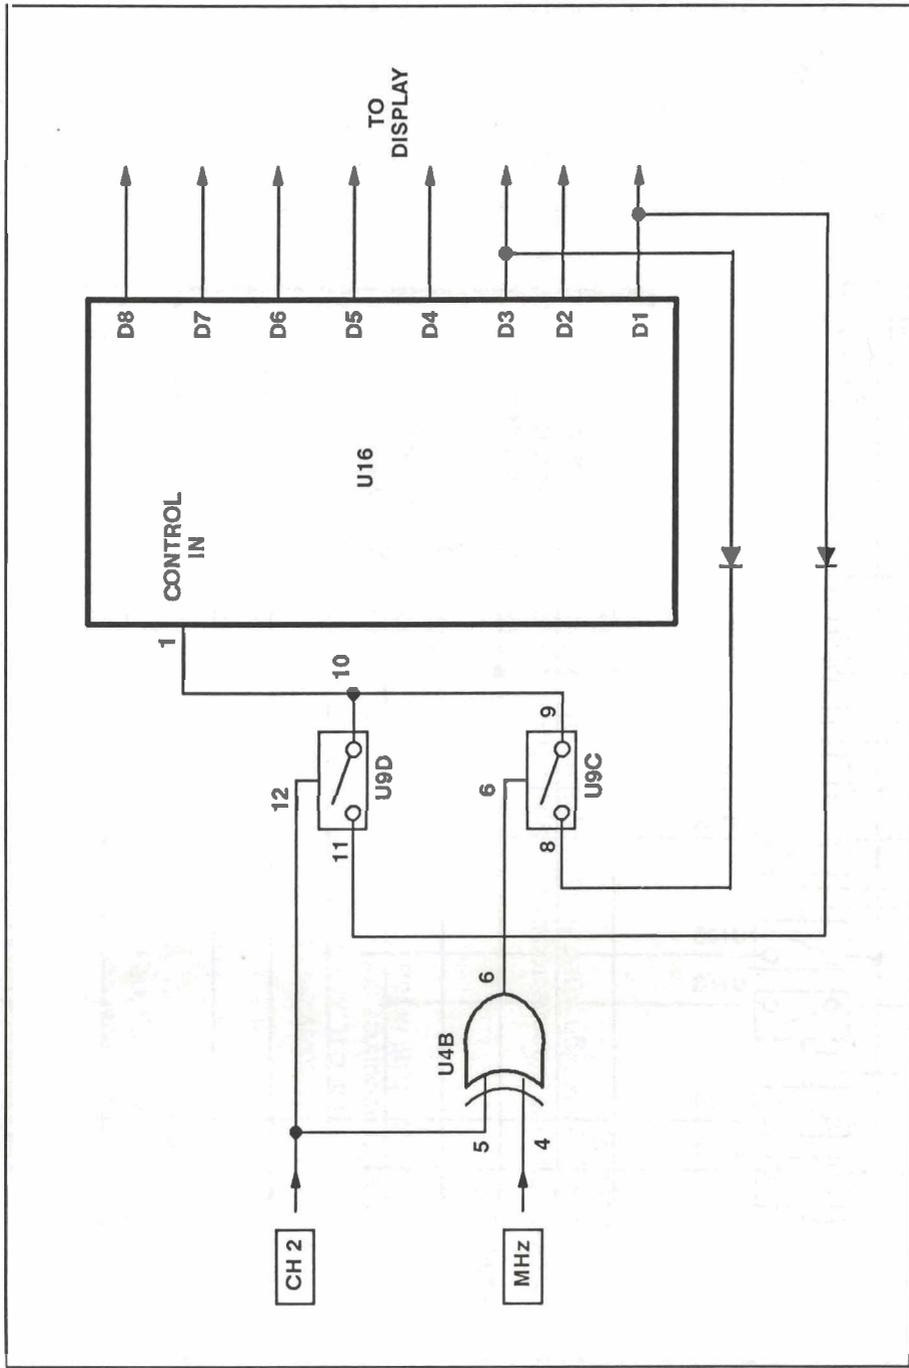

Figure 3-5. Additional strobe feedback.
from input to output through U9C when control input pin 6 is high; or through U9D when control input pin 12 is high. See Figure 3-5.
**EXTERNAL DECIMAL POINT.** The effect of decade division of the input signal is compensated by shifting the decimal point in the display. This is done by connecting digit strobe D3 to U16 pin 1 (see Figure 3-5). In Frequency kHz, PERIOD, CHECK, and TOTALize modes, D3 is not applied, and automatic decimal point placement is enabled in U16. However, when Frequency